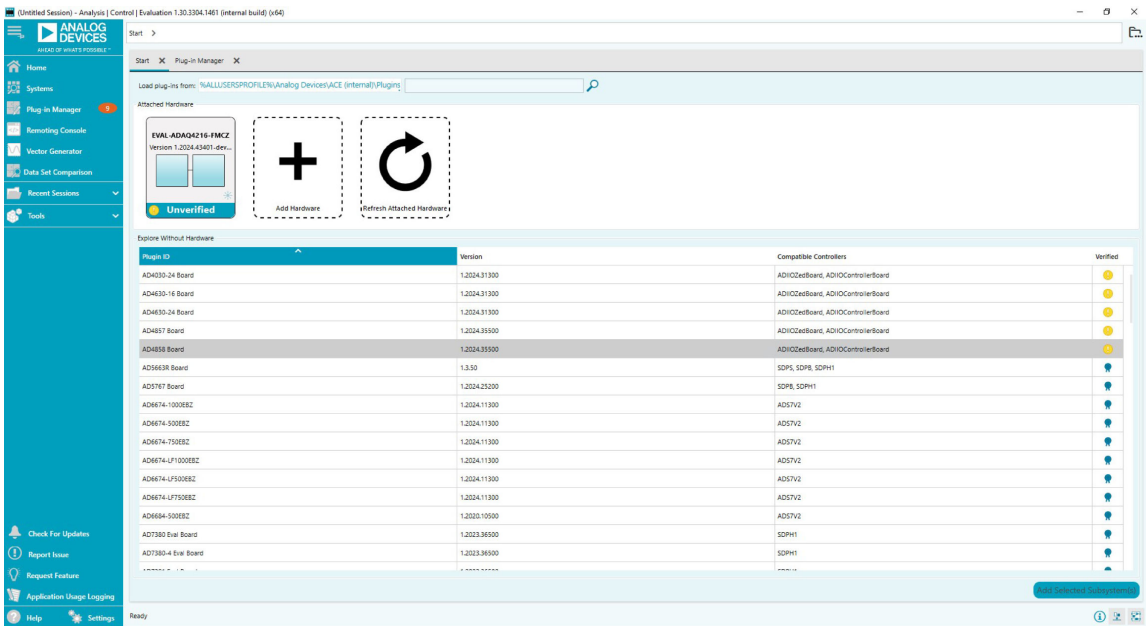

Figure 9. ACE Software Main Window
1. From the **Start** menu of the PC, click **All Programs > Analog Devices > ACE > ACE.exe** to open the ACE software main window, as shown in Figure 9.
3. Turn on SW8 on the Zedboard and wait for LD0 to start blinking. The **ADAQ4216 Eval board** icon appears in the **Attached Hardware** section on the ACE software main window, as shown in Figure 9.